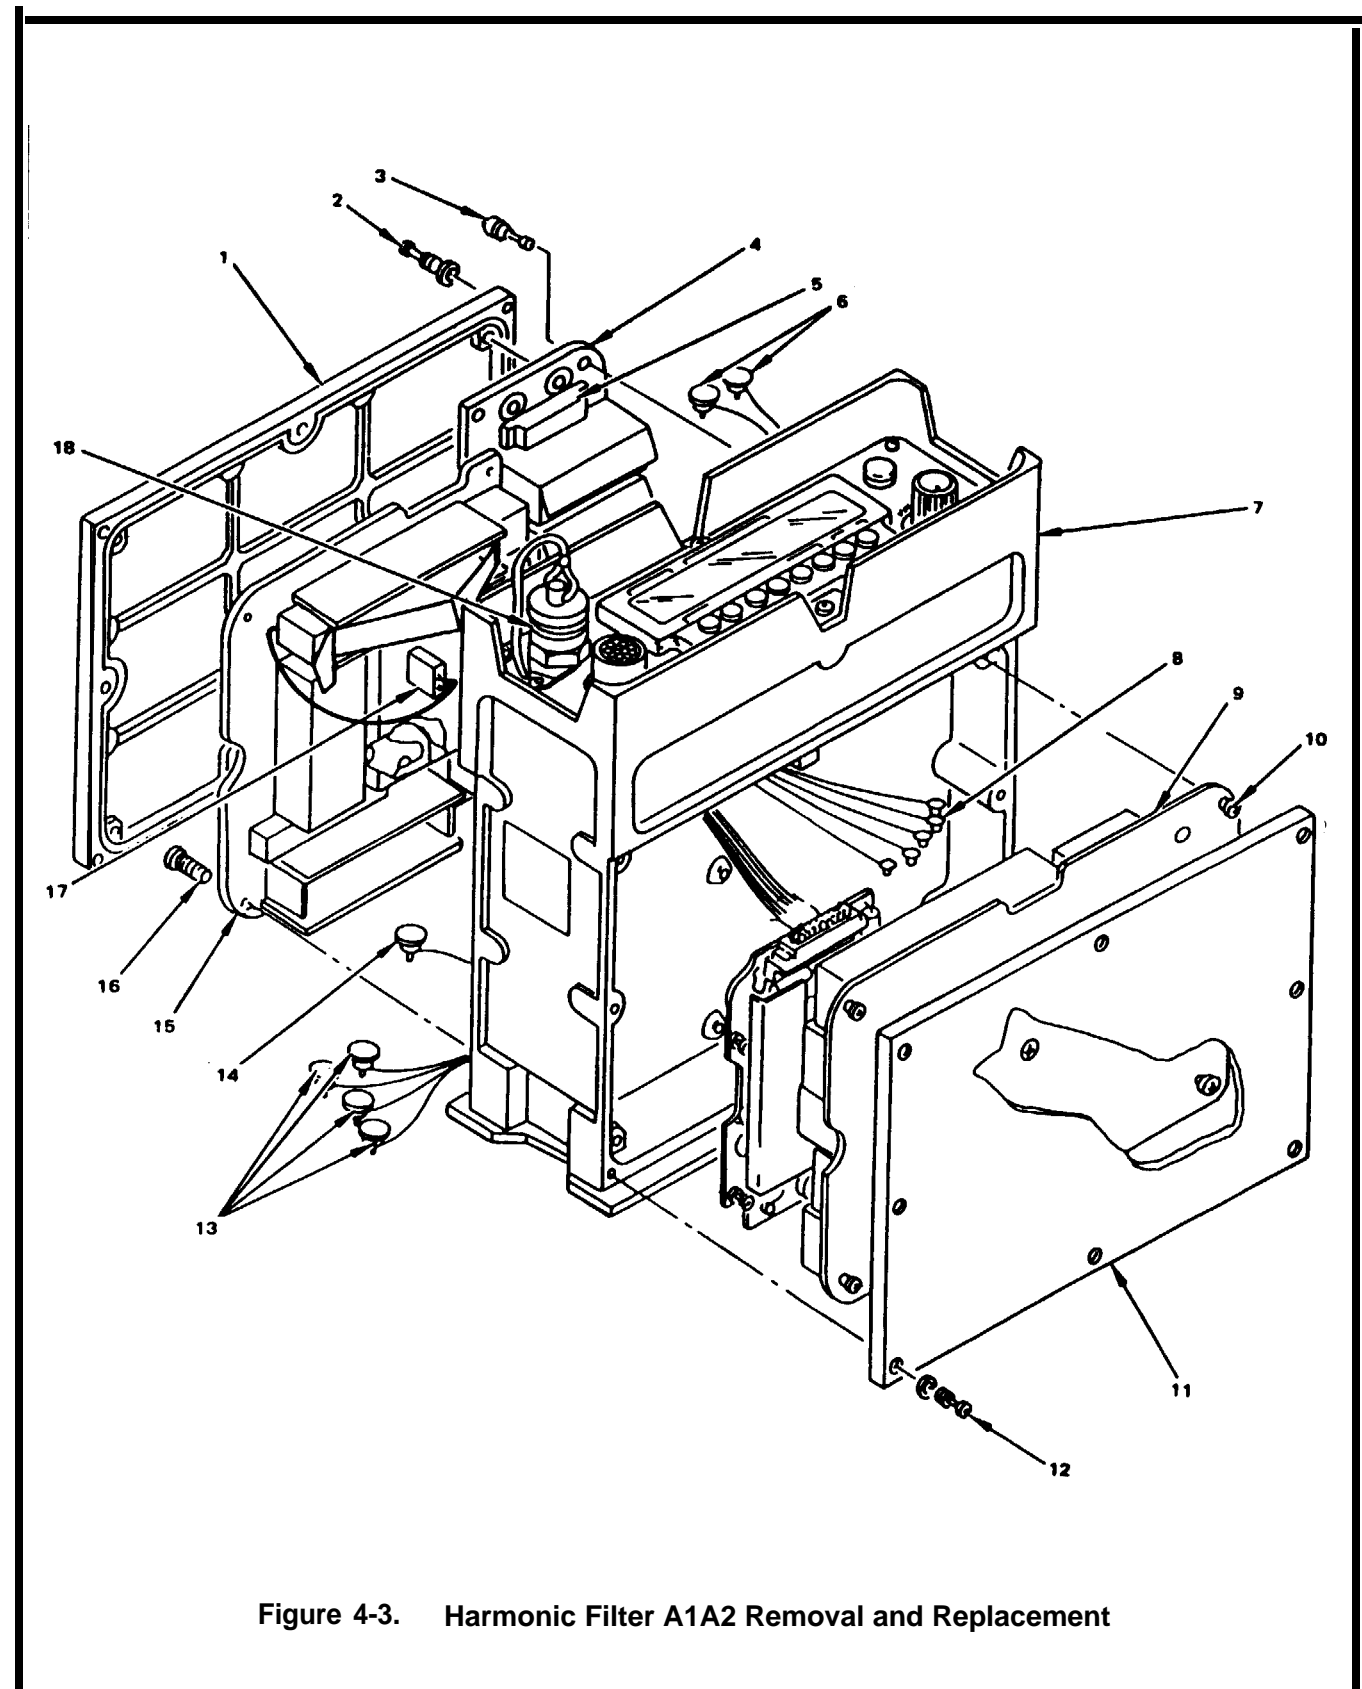

Figure 4-3. Harmonic Filter A1A2 Removal and Replacement
**HARMONIC FILTER A1A2 REMOVAL AND REPLACEMENT, fig 4-3**